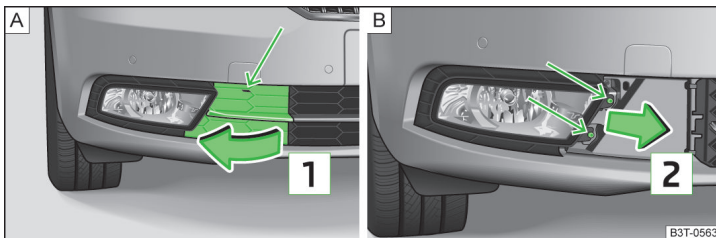

Fig. 203 Front bumper: Remove the protective grille/fog light
- Undo the protective grille in the area of the arrow » Fig. 203 - **A** using the clamp for removing the wheel trims » page 201, *Vehicle tool kit*.
- Use the screwdriver from the tool kit to unscrew the fog lamp » Fig. 203 - **B**.
- Replace the fog lamp by inserting it in the opposite direction of the arrow **2** » Fig. 203 - **B** and screw tight.